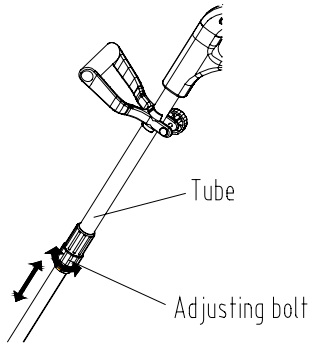

Fig 9
4. The length of the grass trimmer can be infinitely varied and therefore adjusted to your individual height (FIG 9):